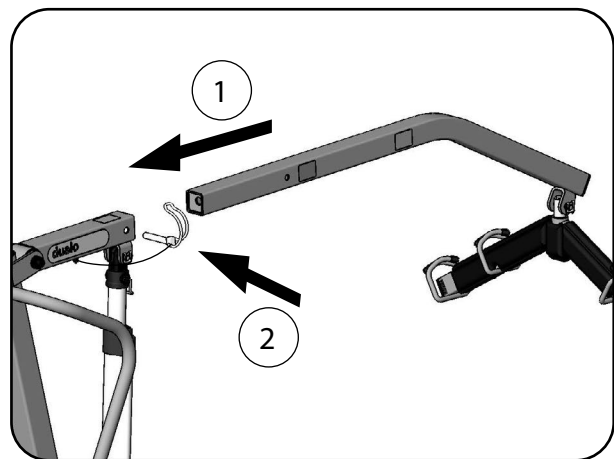

Fig. 8.9.02 – Inserting the standard lifting arm
3. Insert the standard lifting arm into the lifting arm holder (Fig. 8.9.02).
4. Secure the standard lifting arm with the tube clip (Fig. 8.9.02).